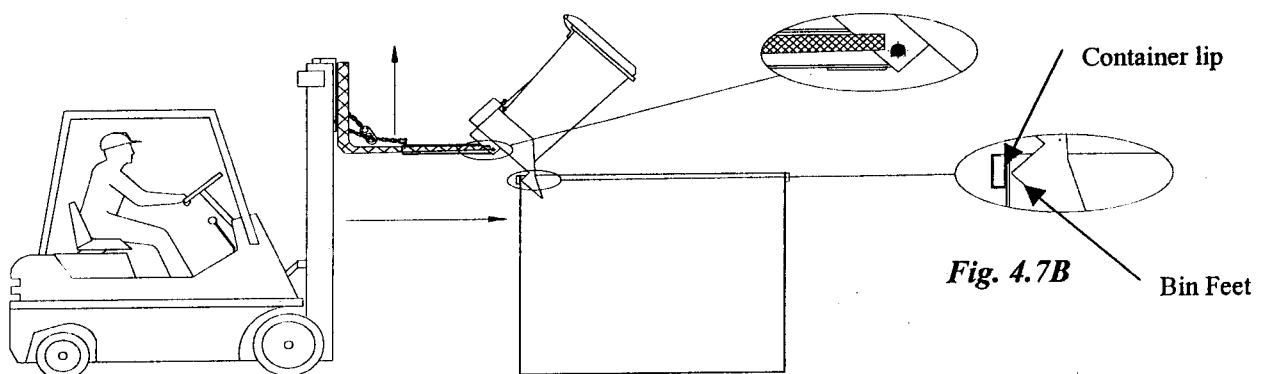

Fig. 4.7A
- k) By lifting the carriage, the Wheelie Bin Tipper will commence tipping forward, swinging around the Wheelie Bin foot that is hooked onto the side of the container as shown in *Fig. 4.7B*. The tipping motion will be aided by moving the forklift forward as the carriage is raised as shown in *Fig. 4.7A*.